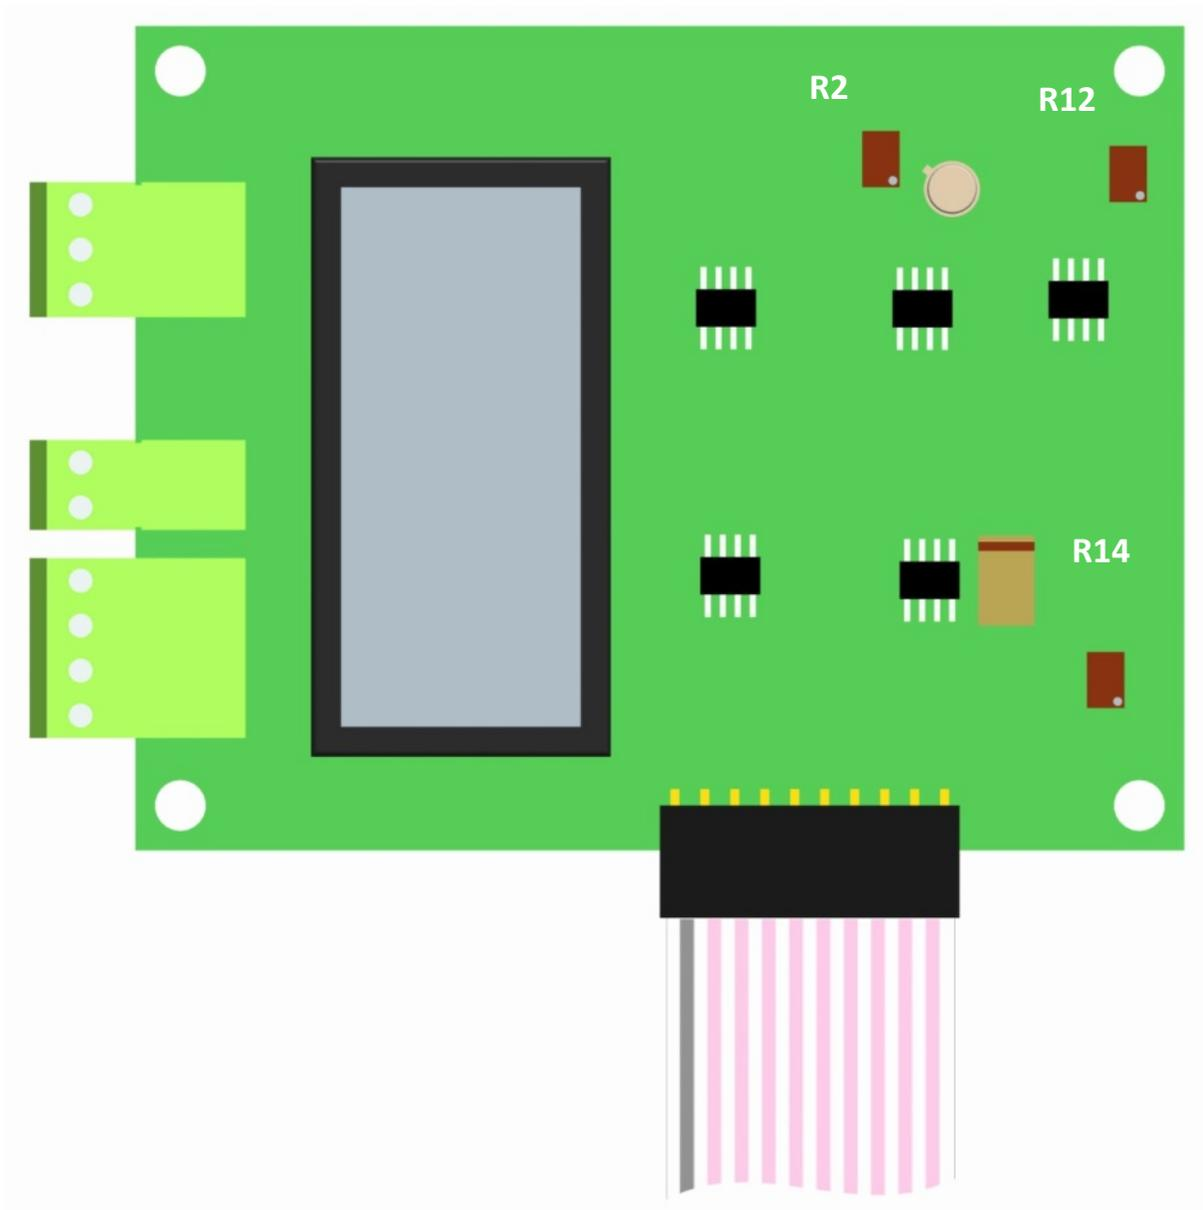

Figure 10. MS3112 Circuit Board, Position R12
8. Adjust the pot at circuit board position R12 (refer to Figure 10) so that the instrument's recorder reads approximately 40% of full scale.